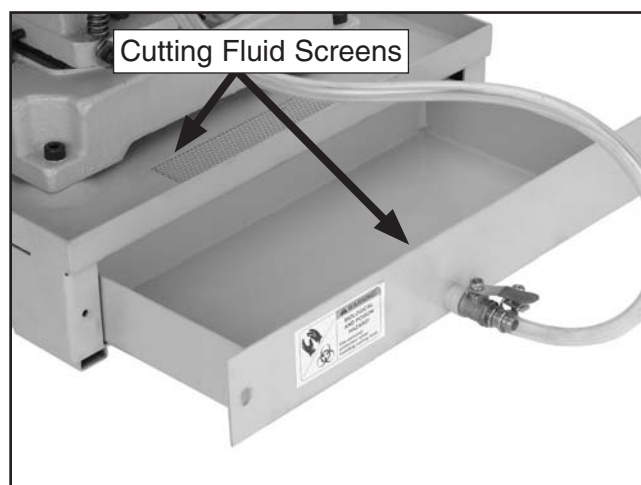

Figure 15. Cutting fluid screens.
4. Clean the cutting fluid screens in the machine base and the tank (**Figure 15**).